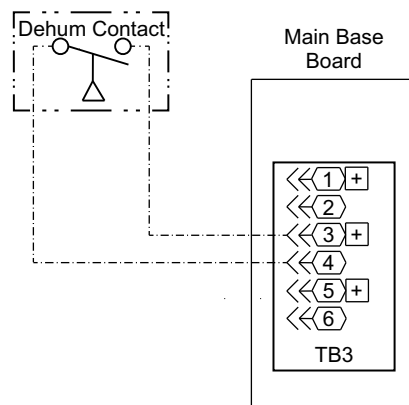

Fig. 47 — Humidistat Connections to MBB (3-Stage SystemVu Units)
7. For 3-Stage SystemVu controller units connect one of the leads from the 2-conductor cable to the TB3 terminal 3 on the MMB (Main Base Board). Connect the other lead to the TB3 terminal 4 on the MMB. See Fig. 47.